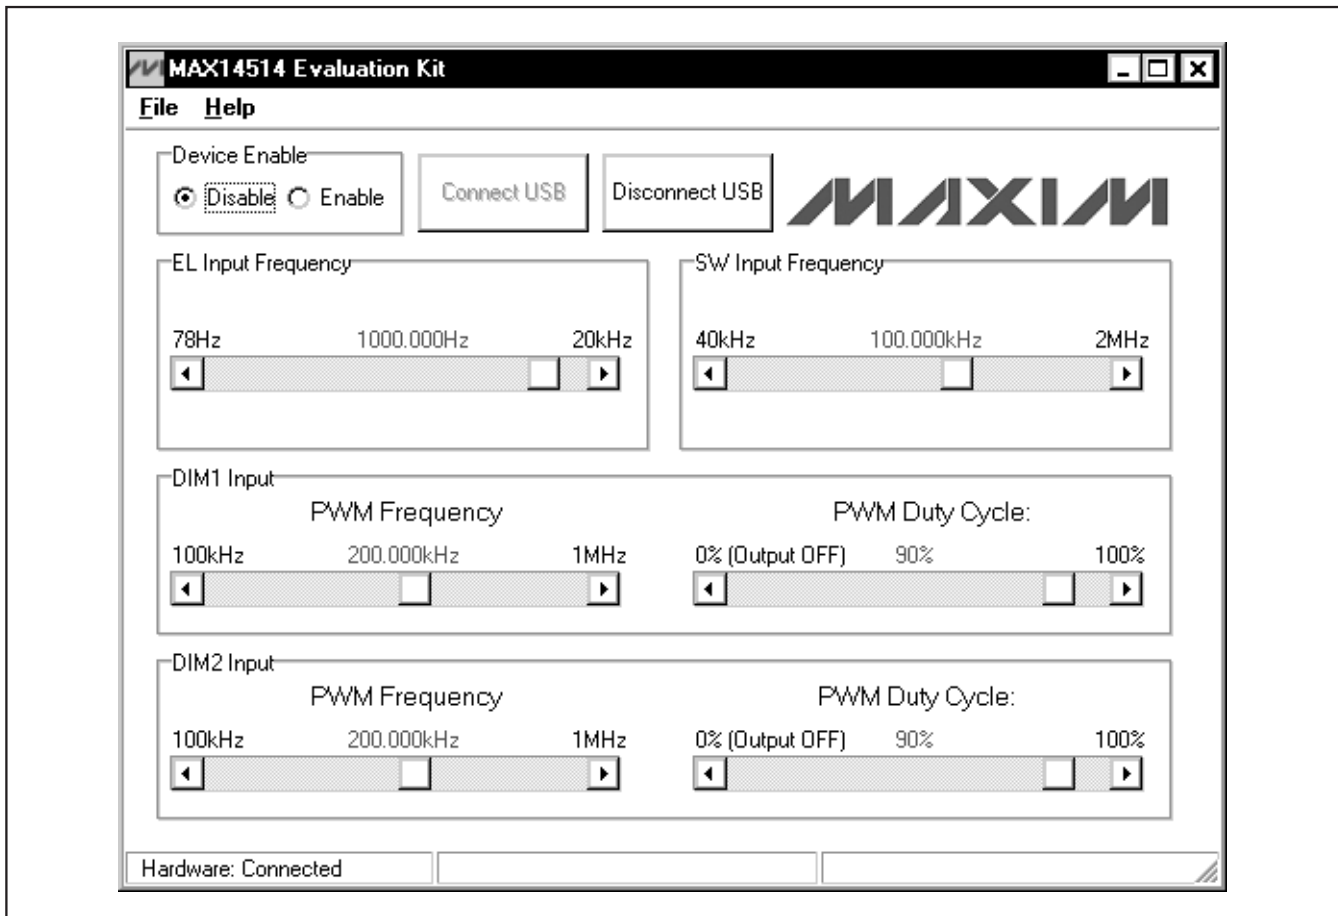

Figure 1. MAX14514 EV Kit Software Main Window
- 4) Connect an electroluminescent (EL) lamp between alligator clips V1 and COM.
- 8) Start the MAX14514 EV kit software by opening its icon in the **Start I Programs** menu. The EV kit software main window appears, as shown in Figure 1.
The main window of the evaluation software (Figure 1) lets a user set the EL voltage switching frequency, boost-converter switching frequency, and PWM signals